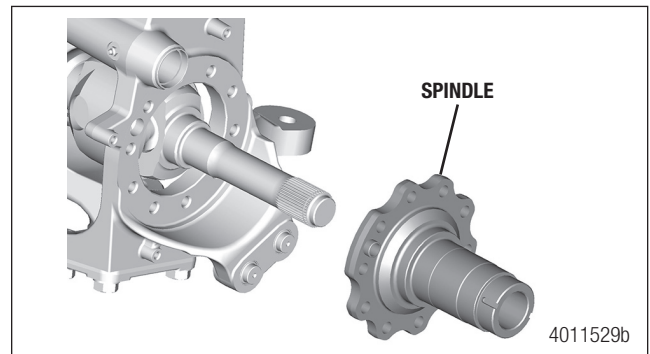

Figure 8.18
5. Install the spindle against the knuckle with the ABS sleeve aligned to the ABS through hole in the knuckle. Figure 8.18.